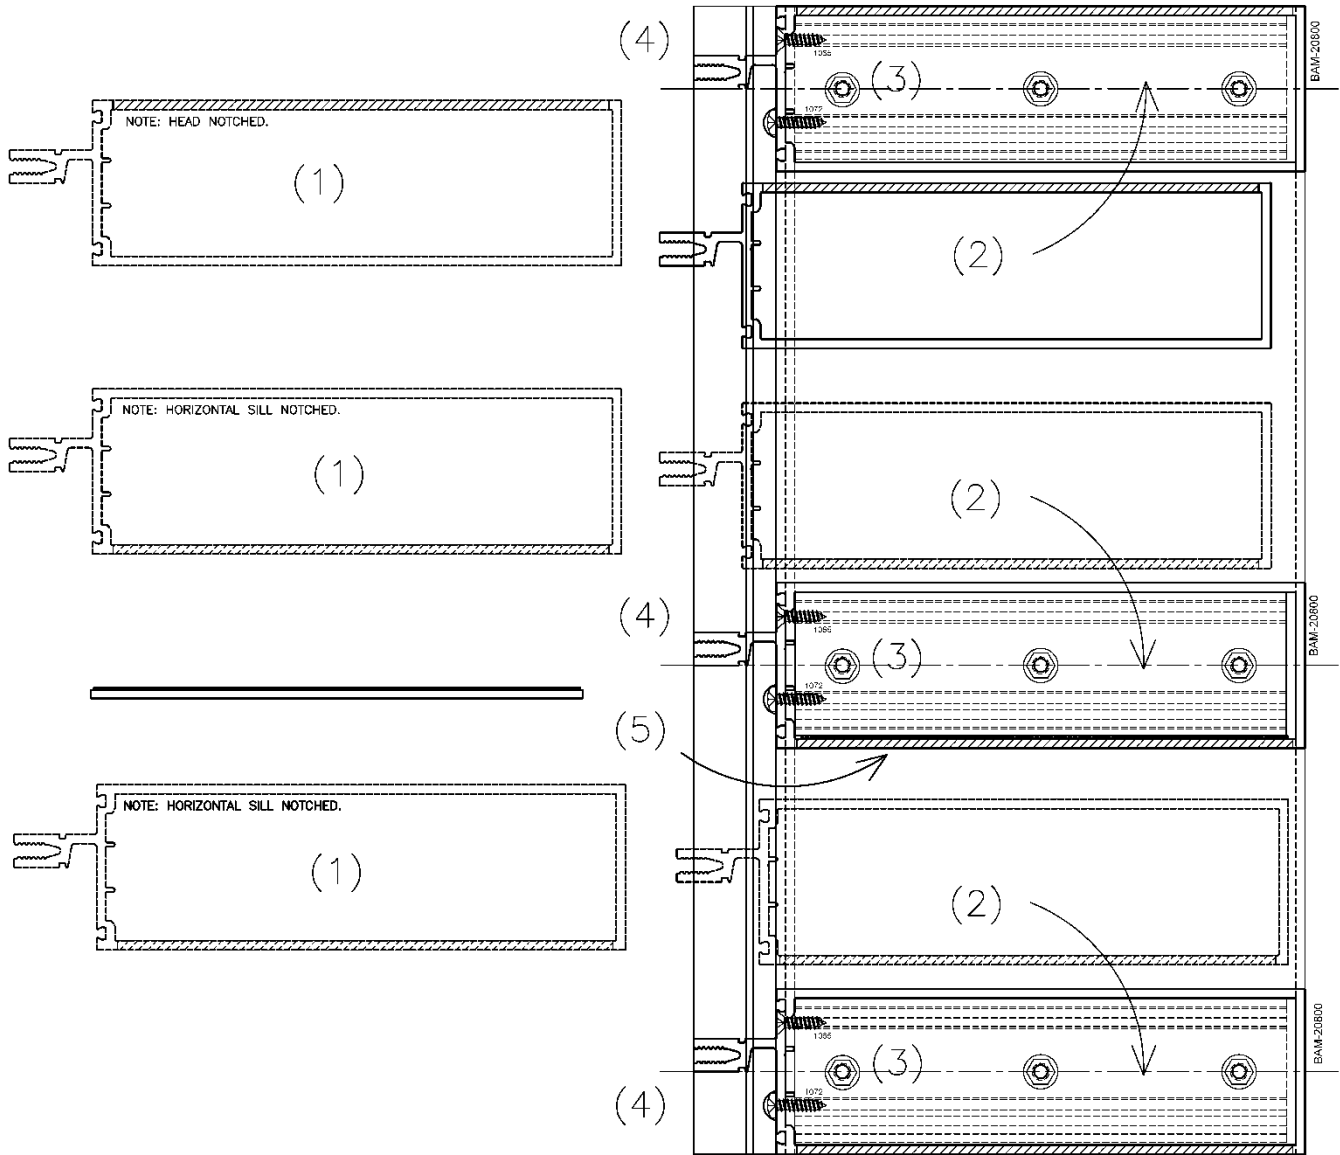

FIGURE K.1
- Recommend this method is used only where an exposed fastener is not desirable. (FIGURE K.1)